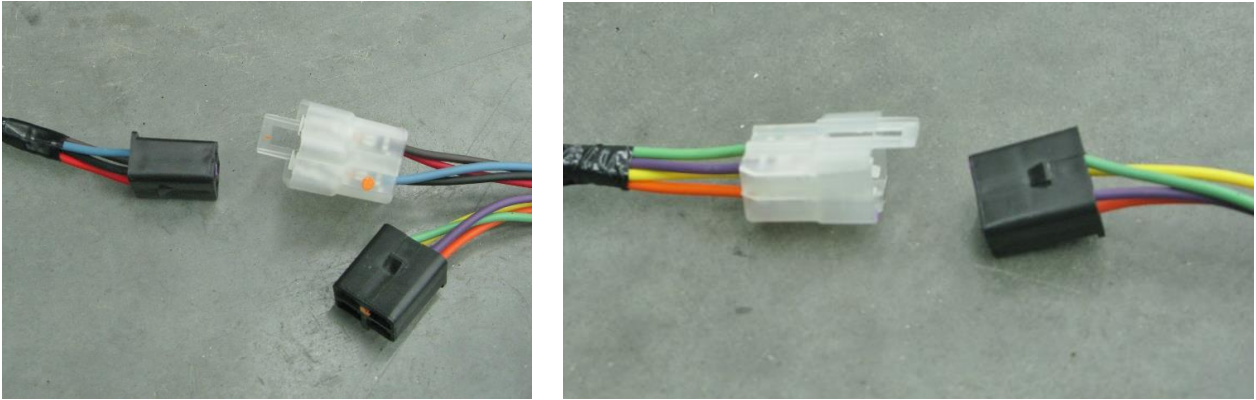

Figure 35 - Plug in Module to Harness
35. Once the module is secured, plug the black connector from the module into the clear connector with the corresponding orange, yellow, green and purple wires. Plug the clear connector from the module into the black connector with the corresponding red, black, blue and brown wires on the new harness (Figure 35).